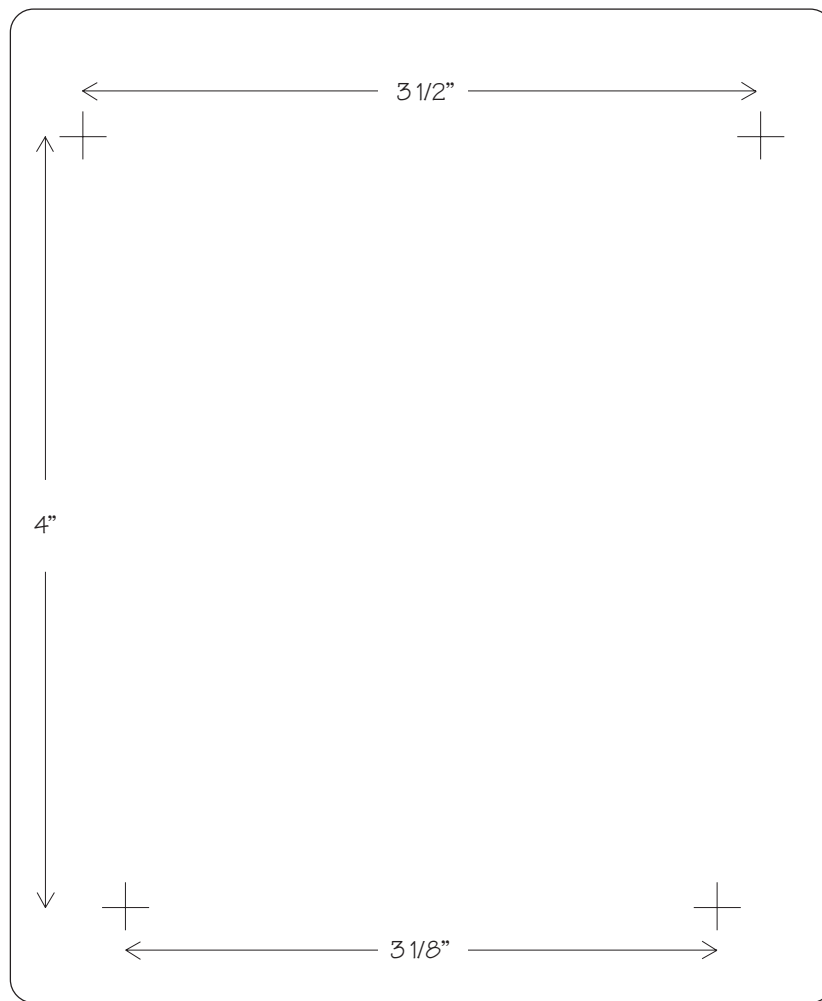

Fig 5-13 PowerView Wall Mounting Template
2. Use the template in figure 5-13 to position four large screws on a clean dry wall surface.